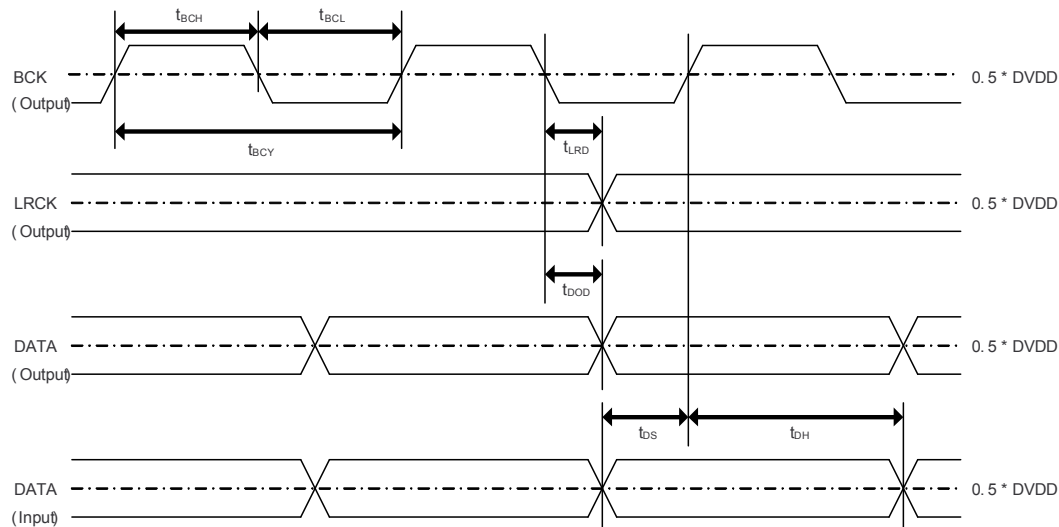

Figure 6. PCM5252 Serial Audio Timing - I²S Master
7.9 Timing Requirements: I²S Master, See Figure 6
Timing Requirements: I²S Master, See Figure 6 (continued)